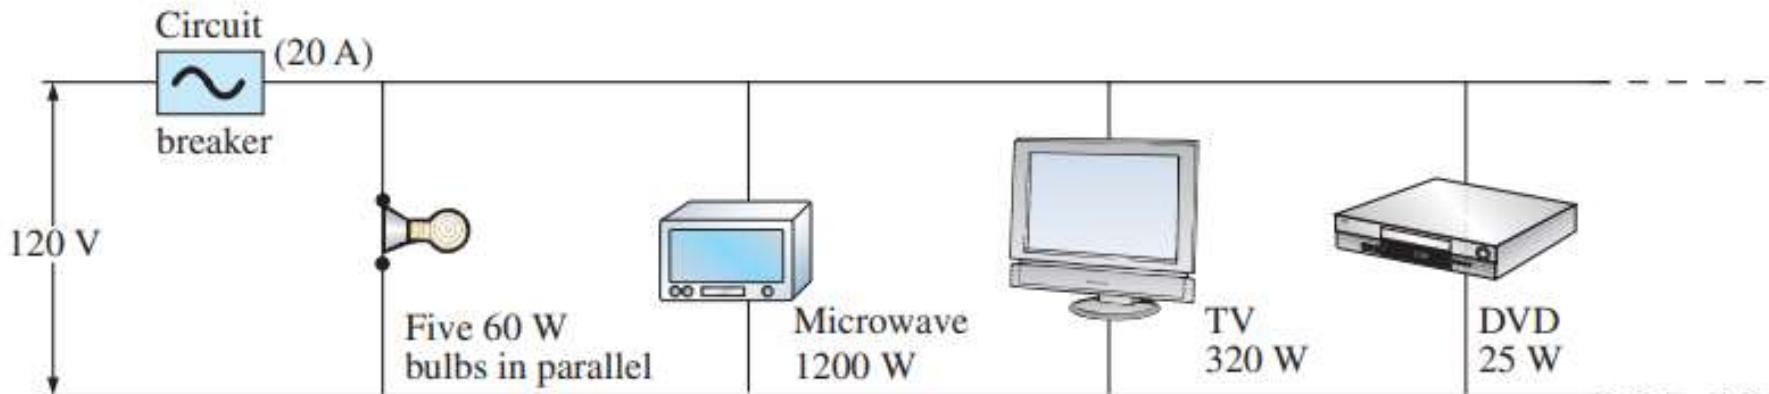

FIG. 6.84
25. A portion of a residential service to a home is depicted in Fig. 6.84.
- Determine the power delivered by the source. How does it compare to the sum of the wattage ratings appearing in Fig. 6.84?